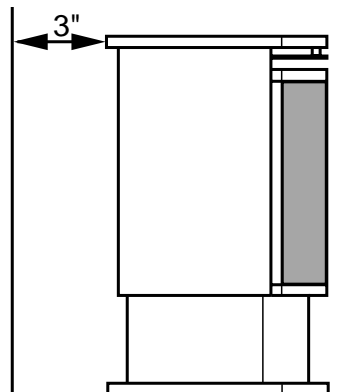

Figure 6 - Minimum Clearance to Back Wall
- A. Clearances from the back of stove to wall should not be less than 3 inches (see Figure 6).